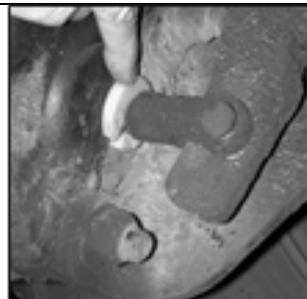
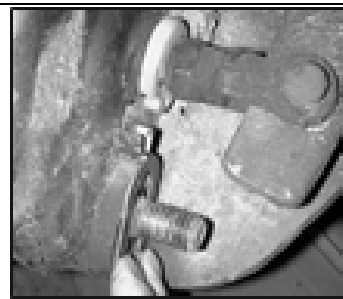

Fig. 2
Fig. 3
Step 2. Place indicator onto pushrod against chamber "face". Do not secure in place at this time. (Fig. 2)
Step 3. Remove one (1) nut and washer from brake chamber mounting stud.
Step 4. Position the gauge bracket onto the mounting stud with the "ears" toward the face of the brake chamber and resting above the chamber's mounting bracket. (Fig. 3) NOTE: The "ears" of the gauge bracket should be placed close to, but not touching, the indicator.
Step 2. Square Tube: Place gauge into the gauge bracket as shown in (Fig. 2) and crimp in place using pliers.
Step 4. Mounting location should be slightly to the right or left of the indicator and toward the centerline of the trailer. See (Fig. 3 & 4)